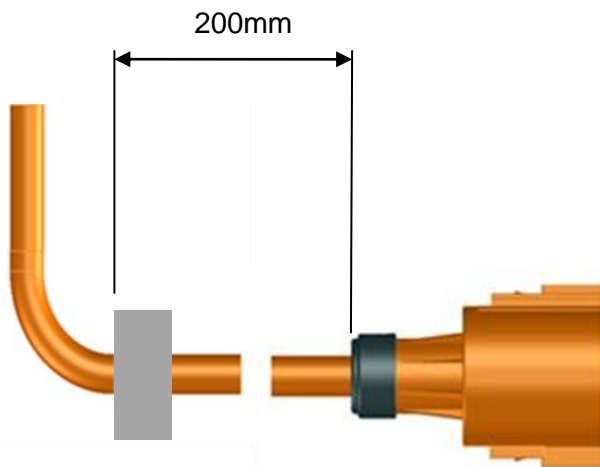

Figure 9
- 8.1 To ensure the receptacle harness operates optimally, avoid bend radii within 200mm of the harness as shown in Figure 9.